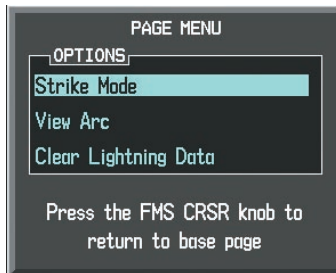

Figure 8-6 Stormscope Page Options Menu
3. Press the **MENU** key. The page menu is displayed with 'Strike Mode' or 'Cell Mode' highlighted (Figure 8-6). Press the **ENT** key on the desired selection.